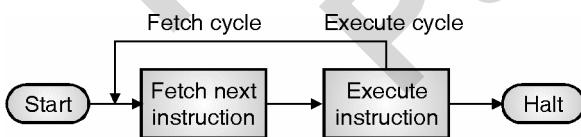

Fig. 9.4.1 : Basic instruction cycle
- Fig. 9.4.1 shows the basic instruction cycle. It comprises of the fetch and executes cycle in a loop to execute huge number of instructions, until it reaches the halt instruction.
1. Program Counter (PC) holds address of next instruction to fetch; hence the CPU (Processor) fetches instruction from memory location pointed to by PC. This is done by providing the value of the PC to the MAR and giving the Read control signal to the memory. On this the memory
- 3. The instruction is loaded into Instruction Register (IR) from the MBR.